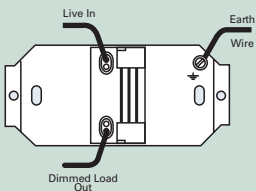

Figure 1 Installation:
- A single circuit can be connected as per Figure 1 above.
Single Circuit: As the Crabtree dimmer is fitted with an internal switch, a single circuit can be connected as per Fig. 1.